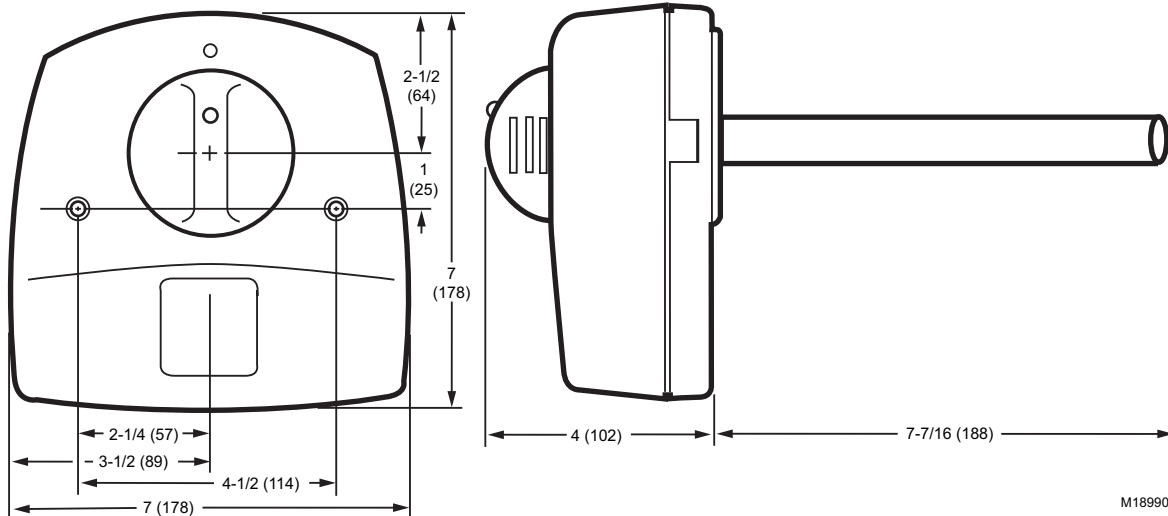

Fig. 3. Ultraviolet System dimensions in in. (mm).
4. The duct mounting location must be a minimum of 8 in. wide. See Fig. 3.
5. The depth of the duct must accommodate the full length of the ultraviolet bulb as shown in Fig. 3.